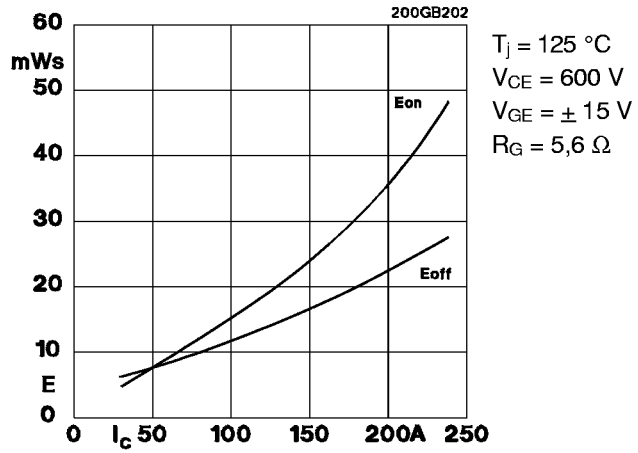

Fig. 2 Turn-on /-off energy $= f(I_C)$
5) See fig. 2 + 3; R_{Goff} = 5,6 Ω